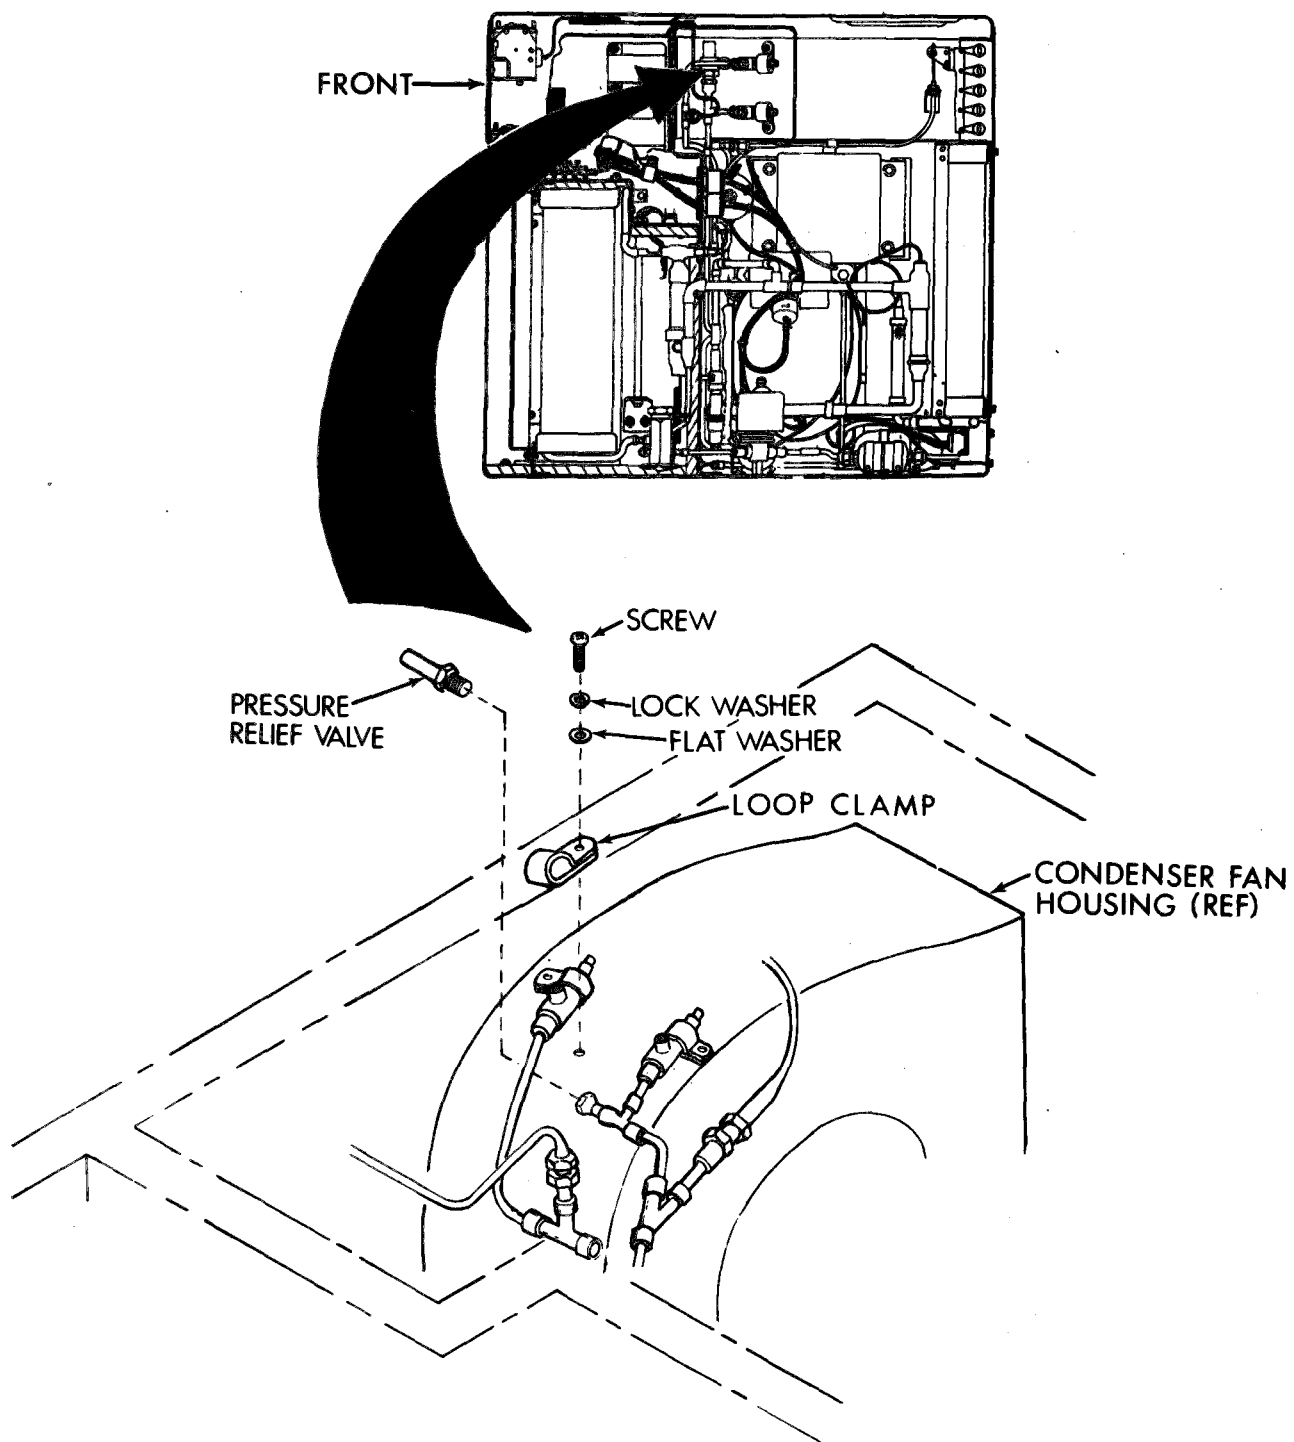

Figure 5-17. Pressure Relief Valve
a. Removal. (See fig. 5-17.)
(1) Disconnect power at power source.
(2) Remove top rear cover (para 4-11).
(3) Discharge and purge refrigeration system per paragraphs 5-11 and 5-12.
(4) Remove screw, lock washer, flat washer, and loop clamp.
(5) Use two wrenches, one to hold fitting and the other to remove valve. Unscrew valve and remove it from unit.